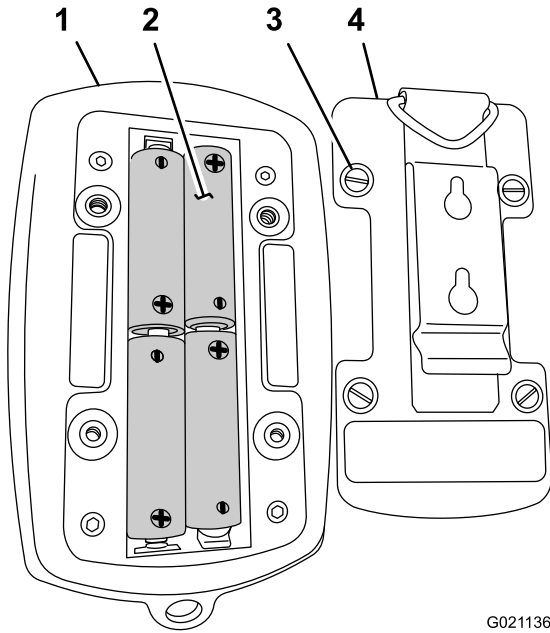

Figure 72
1. Loosen the 4 screws that secure the battery cover from the back of the radio-control transmitter, and remove the cover (Figure 72).
3. Insert the replacement batteries (Figure 72).
4. Install the battery cover to the transmitter and secure with the 4 screws (Figure 72) loosened in step 1.